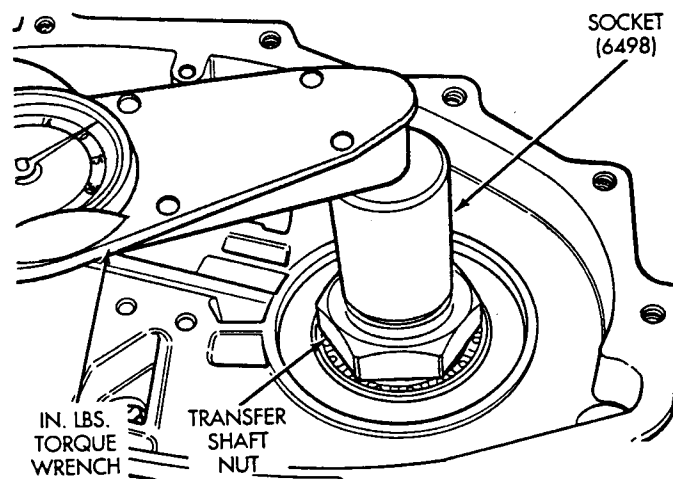

Fig. 35 Checking Turning Torque
(40) Check the turning torque of the transfer shaft using a torque wrench (Fig. 35). The turning torque should be 0.5 to 1.3 N·m (5 to 12 in. lbs.). If the turning torque is too high, install a thicker transfer shaft preload shim. If the turning torque is too low, install a thinner transfer shaft preload shim.